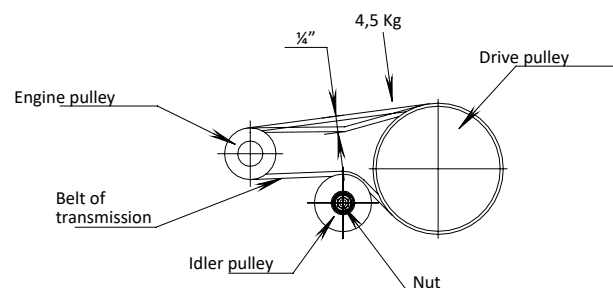

FIG 10.
- The drive belt is on the underside of the engine frame weld. Adjust the belt so that it moves 0.6 cm with 4.5 kg of pressure; adjust the tension by moving the drive idler pulley, then tighten all the nuts (see FIG 10)